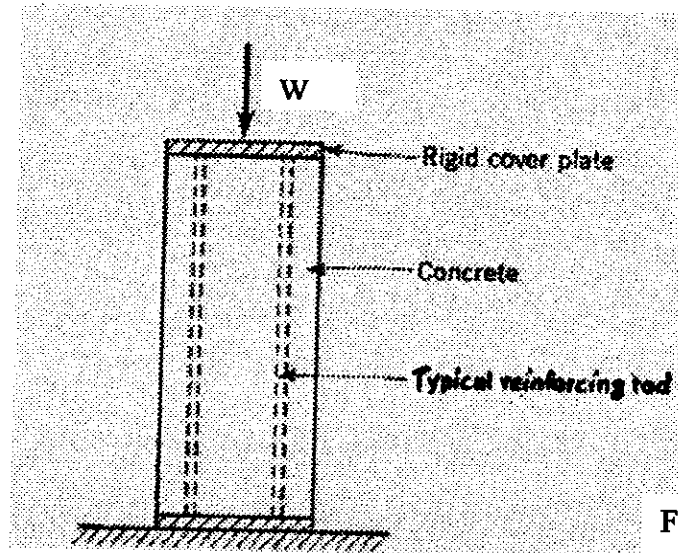

Fig.Q3
3. A concrete pier of 0.5m x 0.4m cross section and 1.5m high, is loaded as shown in Fig.Q3. The concrete is strengthened by the addition of 6 vertical 20x20mm square steel rods placed symmetrically about the vertical axis of the pier. Find the stress in the steel and concrete and the deflection. Moduli of elasticity for steel and concrete are 200 GPa and 17 GPa respectively and $W=700\text{kN}$.